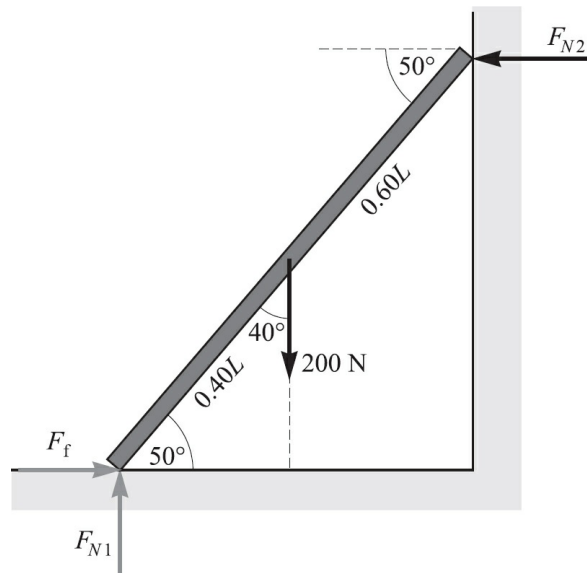

Fig. 5-11
- 5.10 [II]** A ladder leans against a smooth wall, as can be seen in Fig. 5-11. (By a “smooth” wall, we mean that the wall exerts on the ladder only a force that is perpendicular to the wall. There is no friction force.) The ladder weighs 200 N , and its center of gravity is $0.40L$ from the base, where L is the ladder’s length. (a) How large a friction force must exist at the base of the ladder if it is not to slip? (b) What is the necessary coefficient of static friction?